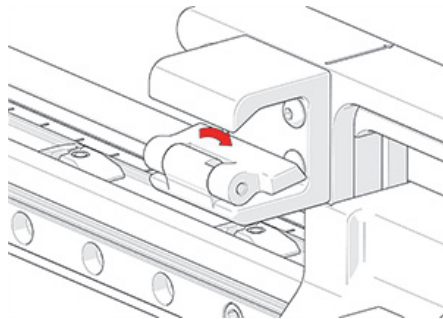

Figure 3-14 Carrier cable clip flap
1. Push the cable clip flap down (see Figure 3-14 on page 48).